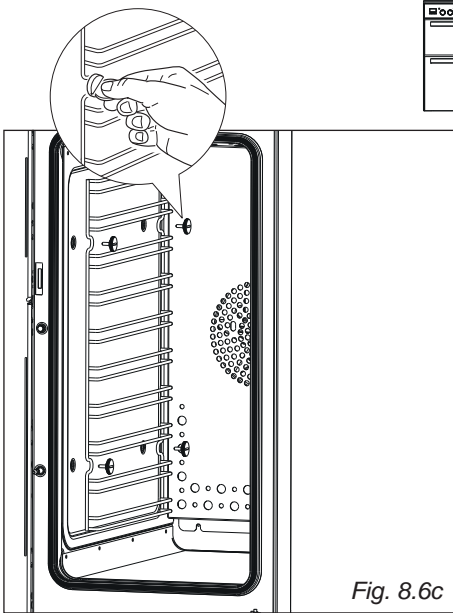

Fig. 8.6c
- Assemble the wire racks to the oven walls using the screws (2 screws figs. 8.6a, 8.6b; 4 screws fig. 8.6c).